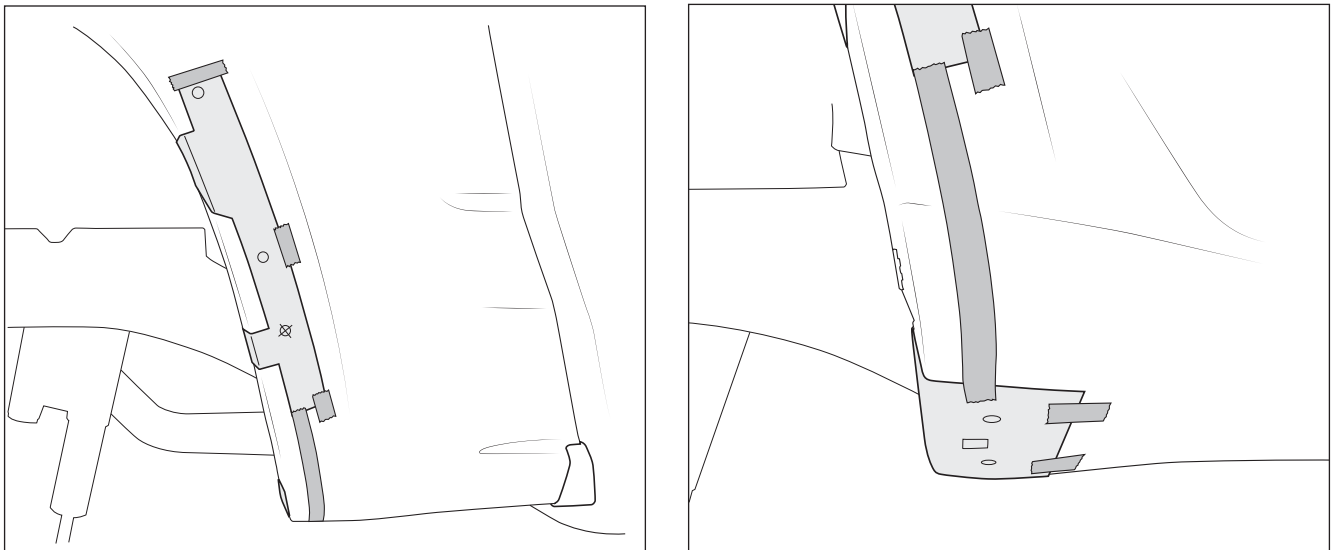

Figure 11
1. Use Templates (RH: AEV303090AA & LH: AEV30391AA) to mark cut line and drill locations on lower front of wheel openings. NOTE: Use tape to transfer cut line from upper template to lower template (fig 11).